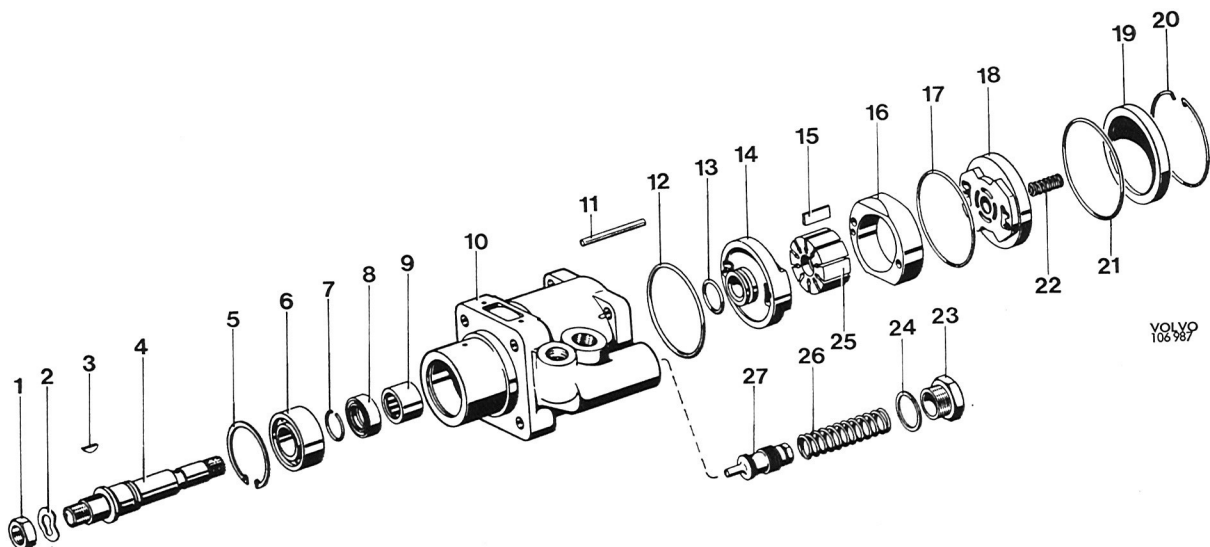

Fig. 6-104. Power pump disassembled
1. Remove the nut (1, Fig. 6-104) and pull off the pulley. If necessary use puller 2279. Remove the brackets.
1. Check the shaft (4, Fig. 6-104) for scoring from seal and needle bearing. Check threads and lands for damage. If the bearing (6) is damaged, it can be removed after the circlip (7) has been taken off.
2. Check the needle bearing (9) and replace if necessary.
4. Check the rotor (25), intermediate piece (16) and blade (15) for wear. The blade should go easily into the rotor. These parts are replaced together in sets.
5. Check that the control valve piston (27) does not jam in the housing bore. Make sure that the piston has the same tolerance group as the housing, that is, that the numbers agree ("1" and "2" or "11").
1. Press the needle bearing (9, Fig. 6-104) into the housing with the help of drift 2996, see Fig. 6-107. The bearing should be pressed in until the tool bottoms so that the needle bearing outer edge is 37.0—37.2 mm (1.45—1.46") from the edge of the housing.